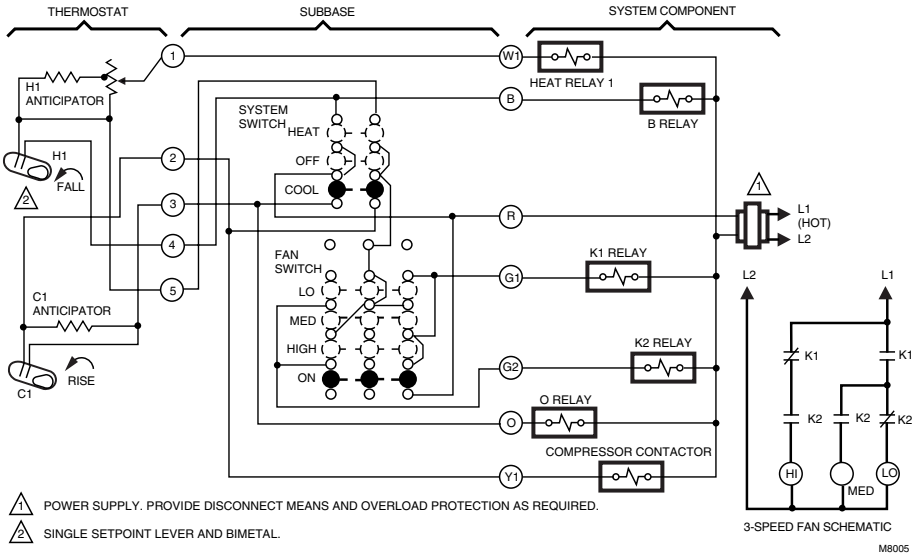
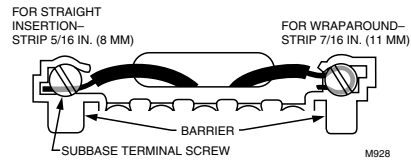

Fig. 4. Internal schematic and typical hookup of T874A Thermostat with Q674Q Subbase with automatic changeover.
Fig. 10. Wiring connections.
- 1 Connect the system wires to the subbase as shown in Fig. 4 through 9. A letter code is located near each terminal for identification. The terminal barrier allows straight or conventional wraparound wiring connections. Either method is acceptable. See Fig. 10.